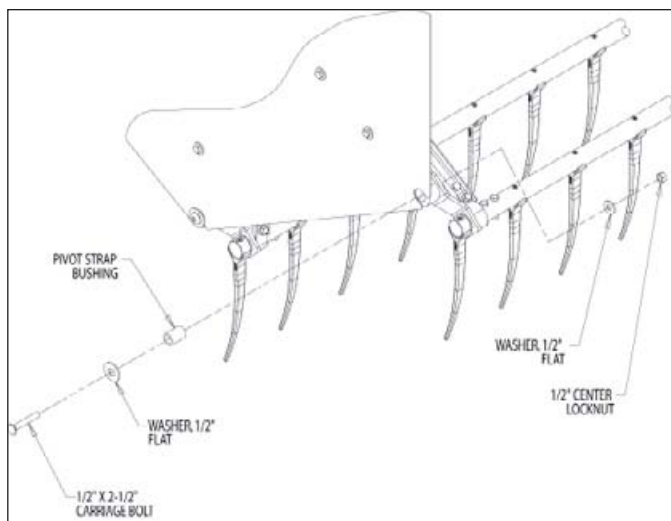

Figure 41, Loosen and remove hardware and bushing
1. Remove one 1/2" X 1-1/2" hex bolt, two 1/2" flat washers, one pivot strap bushing and one 1/2" centerlock nut (Figure 41).